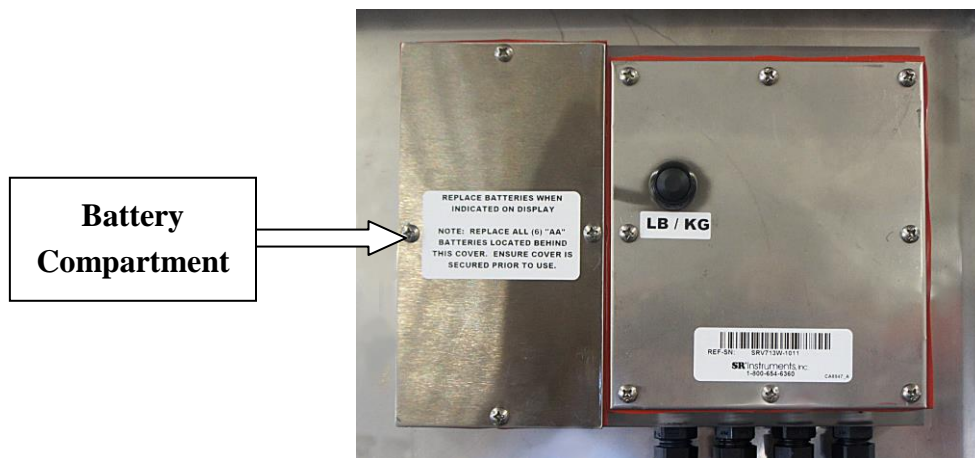

Figure 1: Battery Compartment
- STEP 1:** Unpack the Marine Scale Platform (1) and check parts against the PACKING CHECKLIST. If there are any missing or damaged parts, call the Service Hotline at: 1-800-654-6360.
- STEP 2:** Place the Platform upside-down on the floor and remove the cover on the Battery Compartment (Figure 1). Install six (6) “AA” cell batteries according to BATTERY REPLACEMENT instructions.